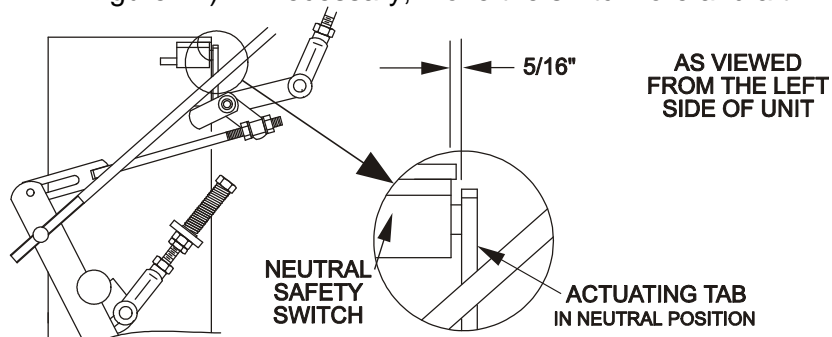

FIGURE 12
- Move the speed control lever (located on the console) to the full forward position and check the orientation of the tabs on the ends of the speed control crank (Figure 12). These tabs should be pointing straight down at the 6 o'clock position or slightly forward. Adjust the threaded yoke at the bottom of the speed control linkage (Figure 12) until the tabs are positioned correctly.
- Pull the speed control lever back to neutral. Check that the neutral safety switch actuating tab has depressed the plunger of the switch so that there is about 5/16" (.79 cm) between the tab and the switch (See Figure 12). If necessary, move the switch fore and aft.